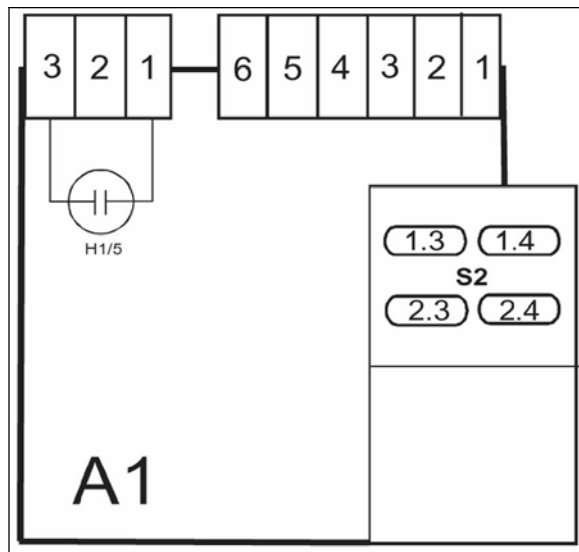

Figure 050-2: Control Electronic A1
- A Free-wheel retainer screws (3)
- B Roller retaining screw (1)
The B 890 and B 990 are equipped with two (2) separate electronic board assemblies: the main electronic (N2), illustrated in Section 010-2.1, and the control electronic (A1). The control electronic is attached to the inside of the top cover, and houses the user controls. See Figure 050-2.